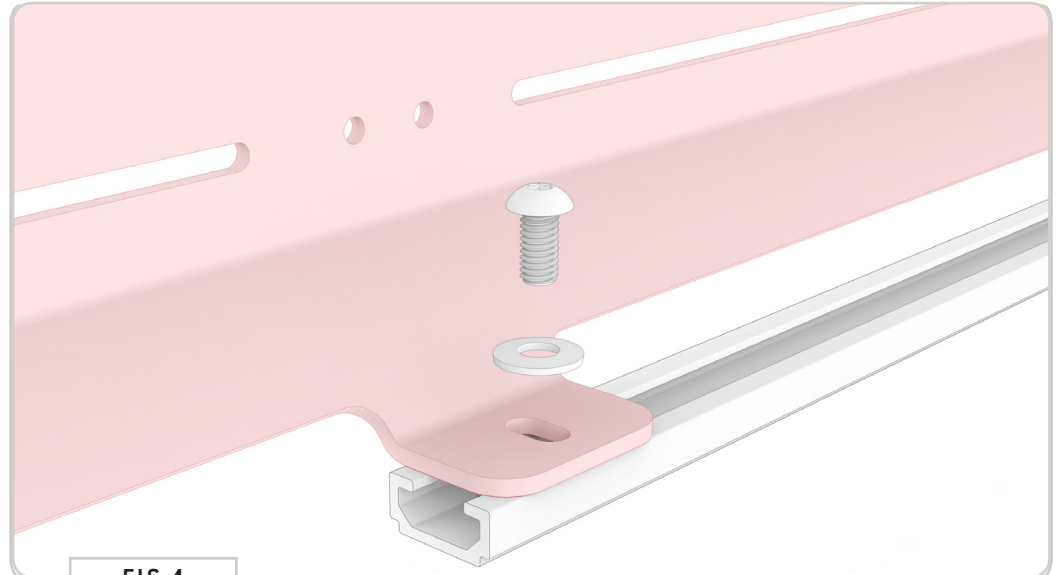
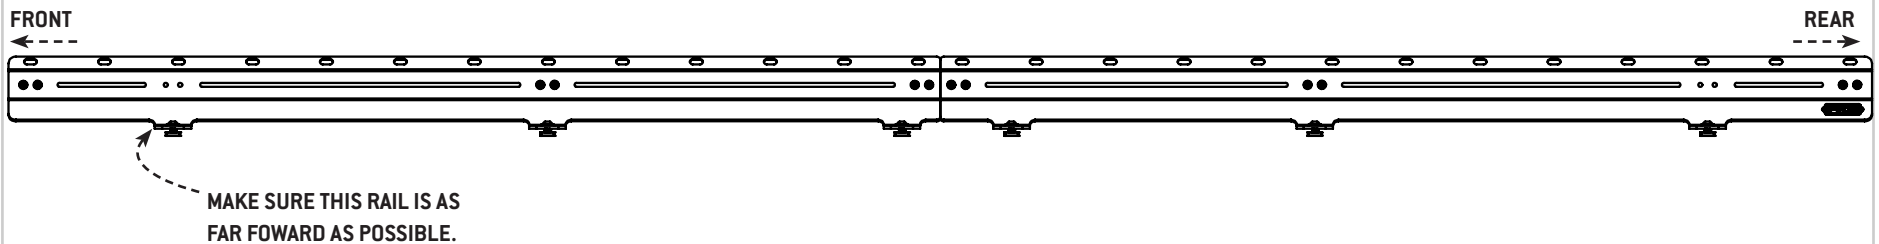

FIG 4
FIG 5
2.1 Install Side Rails: Beginning with the forward section of the rack (see FIG 5 for layout), start loosely attaching the side rails to the roof rails using the **3/8-16" Button Head Screws & 3/8" Lock Washers**, but do not tighten them all the way down (FIG 4).